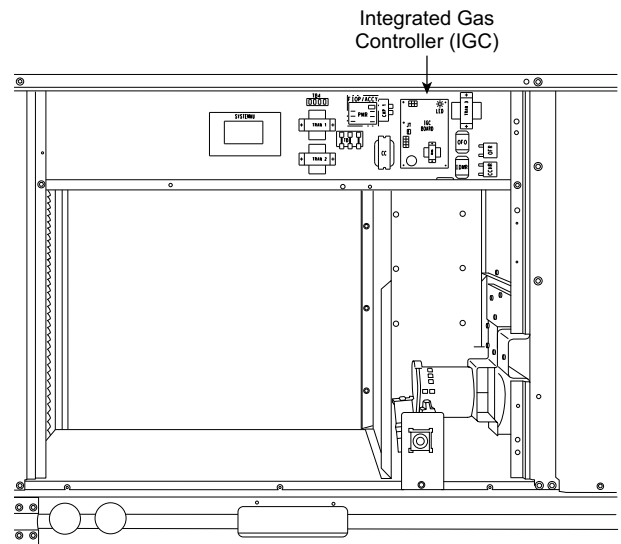
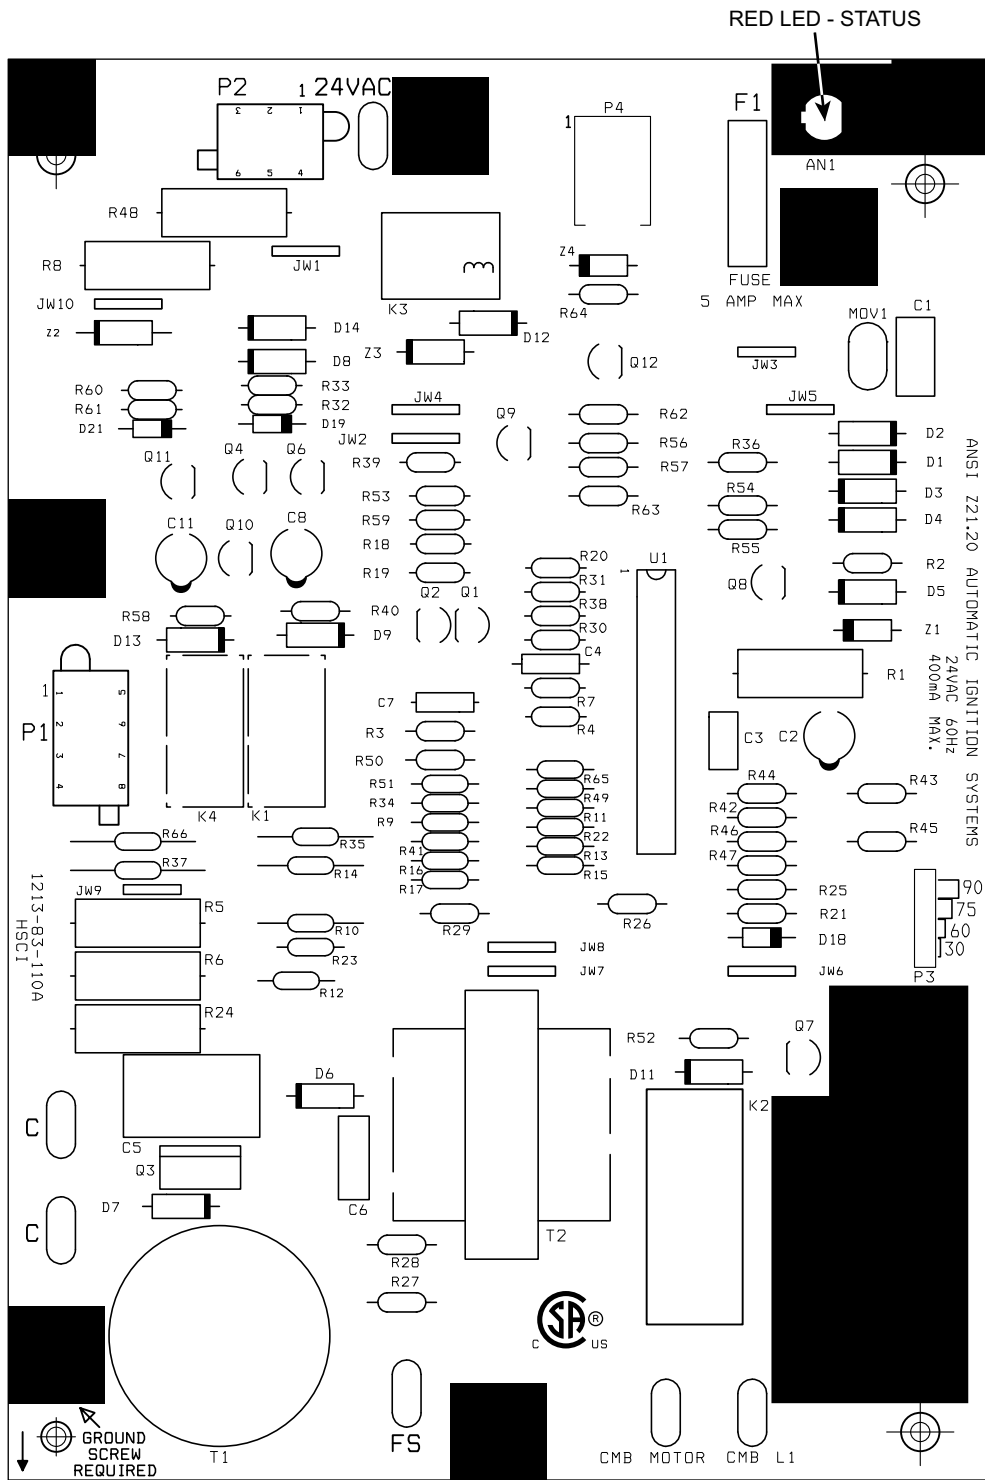
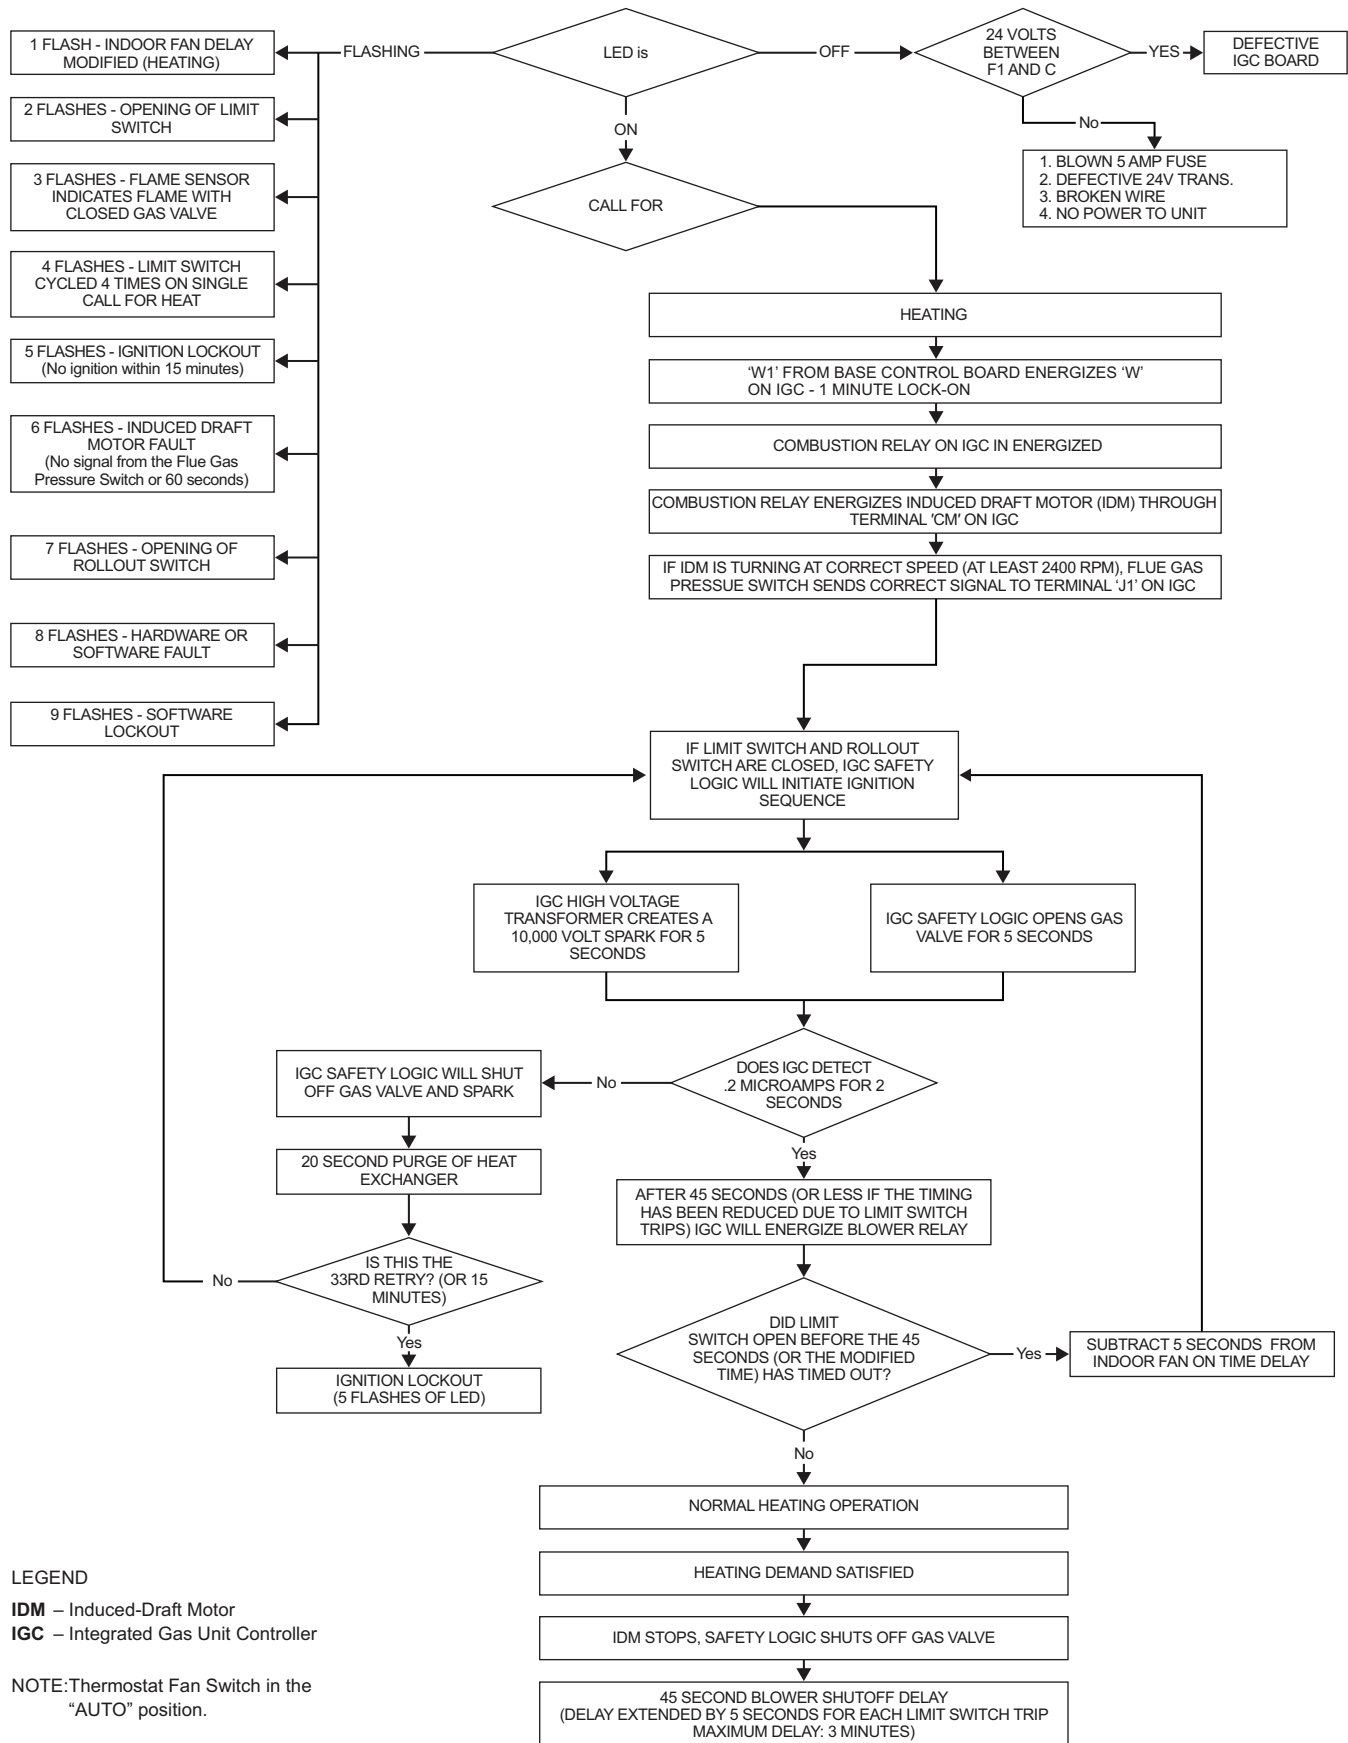
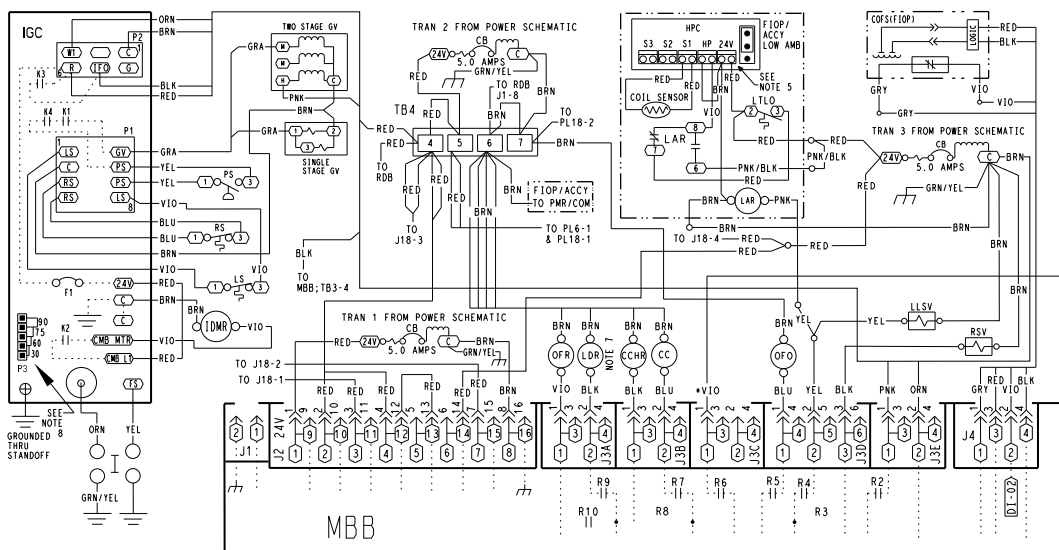

Fig. 39 — Unit Control Box/IGC Location
Fig. 42 — Integrated Gas Control (IGC) Board
Fig. 43 – IGC Service Analysis Logic
Fig. 44 — Typical IGC Control Wiring Diagram
8. Remove igniter wires and sensor wires at the Integrated Gas Unit Controller (IGC). (See Fig. 39.)
Unit is equipped with a direct spark ignition 100% lockout system. The Integrated Gas Unit Controller (IGC) is located in the control box (see Fig. 39). See Fig. 44 for typical IGC board wiring diagram. The IGC contains a self-diagnostic LED (light-emitting diode). A single LED (see Fig. 42) on the IGC provides a visual display of operational or sequential problems when the power supply is uninterrupted. Figure 43 provides an overview of the IGC Service Analysis Logic. When a break in power occurs, the IGC will be reset (resulting in a loss of fault history) and the indoor (evaporator) fan ON/OFF times will be reset. The LED error code can be observed through the view port. During servicing, refer to the label on the control box cover or Table 11 for an explanation of LED error code descriptions.